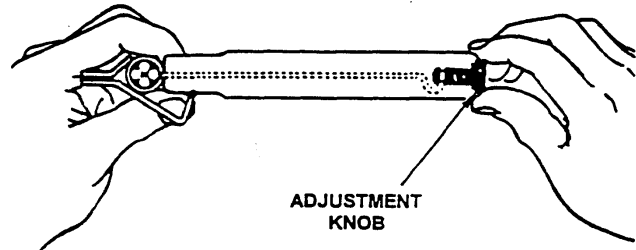

Figure 10. Blade Depth Adjustment
b. Place wire on tool to gage cutting depth required, adjust blade depth to cutting depth required. See Figure 10.